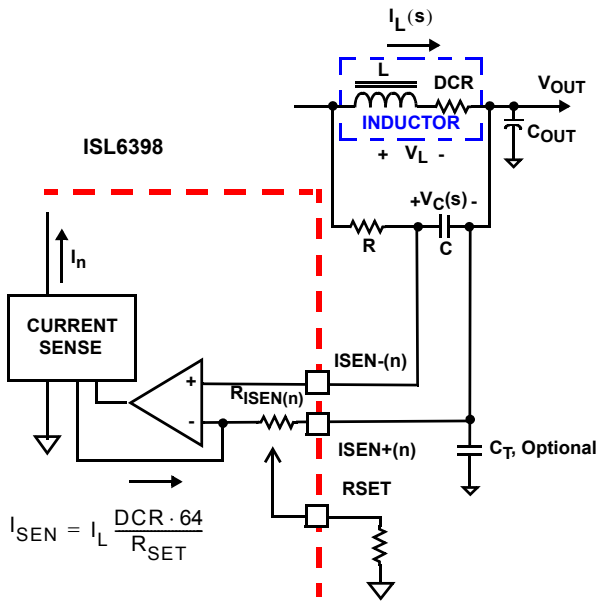

FIGURE 4. DCR SENSING CONFIGURATION
The internal circuitry, shown in Figures 4 and 5, represents one channel of the VR output, respectively. The ISEN± circuitry is repeated for each channel, but may not be active depending on the status of the PWM[6:2] pins, as described in “PWM Operation” on page 17. The input bias current of the current sensing amplifier is typically 25nA; less than 8kΩ input impedance is preferred to minimized the offset error, i.e., a larger C value as needed.
An inductor’s winding is characteristic of a distributed resistance, as measured by the Direct Current Resistance (DCR) parameter. Consider the inductor DCR as a separate lumped quantity, as shown in Figure 4. The channel current I_L , flowing through the inductor, will also pass through the DCR. Equation 4 shows the S-domain equivalent voltage across the inductor V_L .
A simple R-C network across the inductor extracts the DCR voltage, as shown in Figure 4.
The current sense circuitry operates in a very similar manner for negative current feedback, where inductor current is flowing from the output of the regulator to the PHASE node, opposite of flow pictured in Figures 4 and 5. However, the range of proper operation with negative current sensing has a limitation. The worst-case peak-to-peak inductor ripple current should be kept less than 80% of the OCP trip point ($\sim 80\mu A$). Care should be taken to avoid operation with negative current feedback exceeding this threshold, as this may lead to momentary loss of current balance between phases and disruption of normal circuit operation. Note that the negative current can especially affect coupled inductor designs, where the effective inductance is the leakage between the two channels, much lower than the specified mutual inductance (LM) and self inductance (L). To limit the impact, a higher R_{SET} value (1.5x to 2x) is often used to reduce the effective negative current seen by the controller in coupled inductor designs.